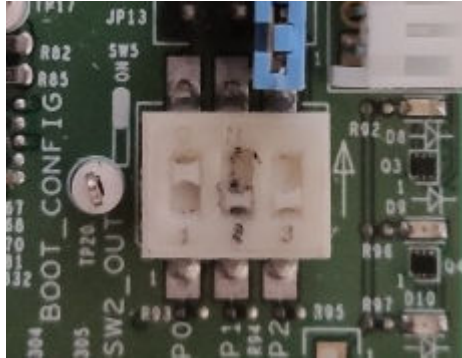

Figure 12. Setting SW5 to 1-ON, 2-OFF, 3-OFF
5. Switch the RT685-EVK board to Serial ISP mode by setting SW5 to 1-ON, 2-OFF, 3-OFF, as shown in Figure 12.